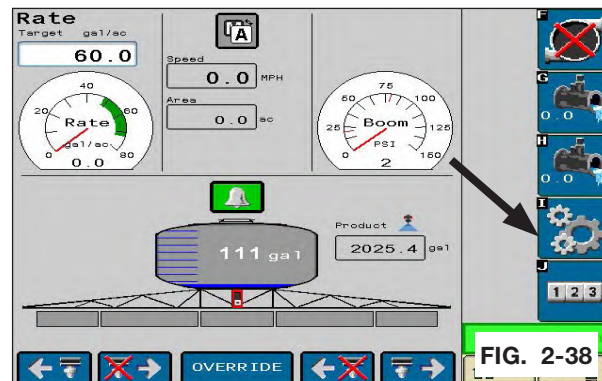

FIG. 2-38
7. The main run page now comes up (FIG. 2-38). Now go to the settings page - the 3 gears tab.